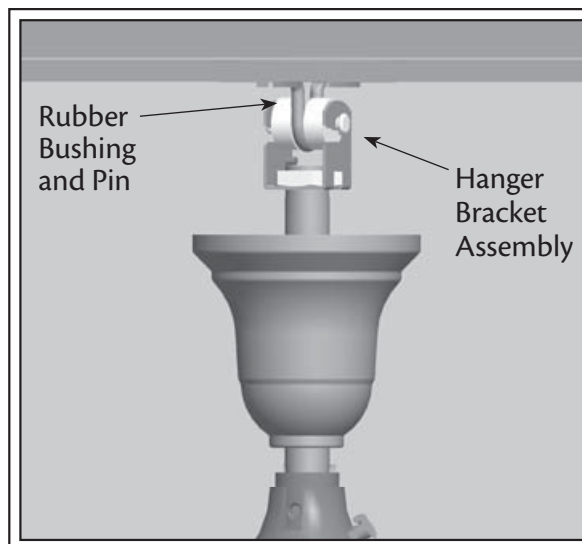

Fig. 8
10. Lift the fan by the motor housing, hook the hanger bracket assembly onto the rubber bushing and pin. Make sure both ends of the pin are outside the hanger bracket assembly (see Fig 8).